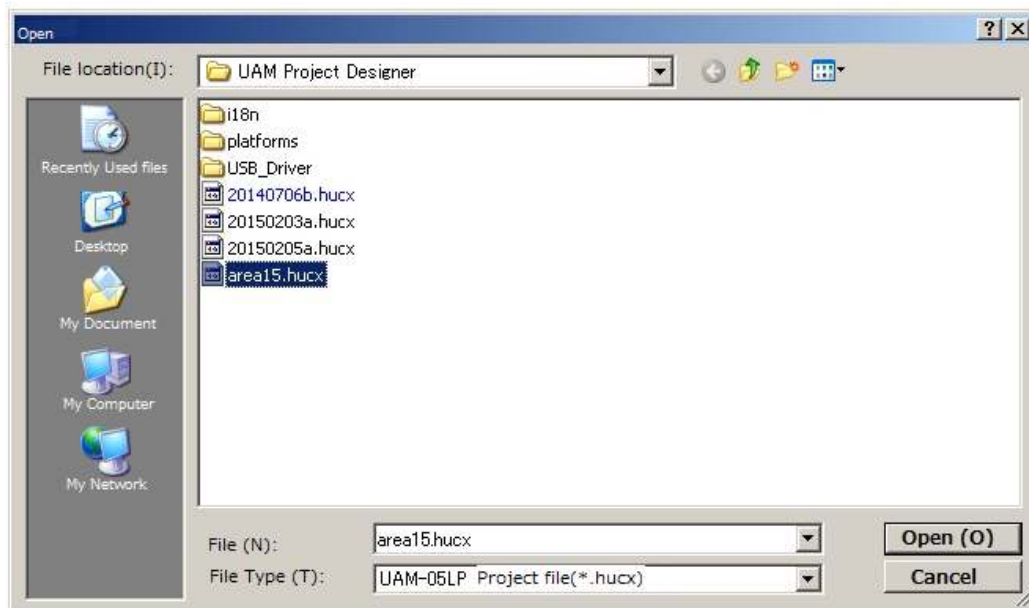

Figure 7-55 Save project file
- c) Dialog box will appear (Figure 7-55). Select the project file [*****.hucx] to open.